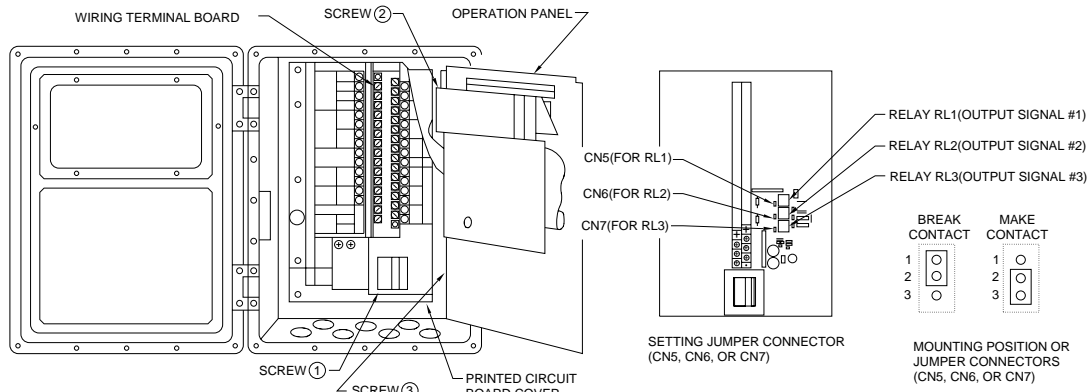

Figure 50: ZA8C Relational Diagram
- (1) Turn off the power switch in the converter.
- (2) Open the operating panel and remove the PCB cover. Remove screw 1 in Figure 50, and also loosen screws 2 and 3.
- (3) Set the corresponding jumper connector position again and change the type of contact. For obtaining a make contact, set the jumper connector to pins 2 and 3, while for obtaining a break contact, set the jumper connector to pins 1 and 2. When the set work has been done, reinstall the PCB cover and turn on the power switch.